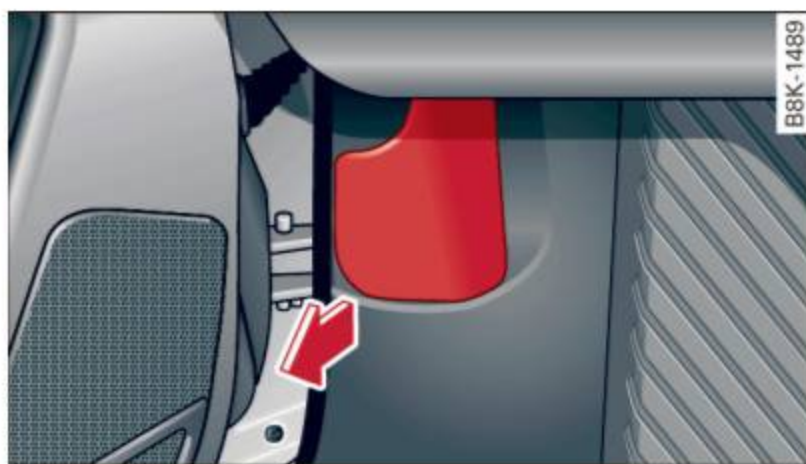

Fig. 167 Driver's side footwell: engine hood release lever
- ▶ Pull the release lever on the left under the instrument panel ⇒ *fig. 167* in the direction of the arrow.